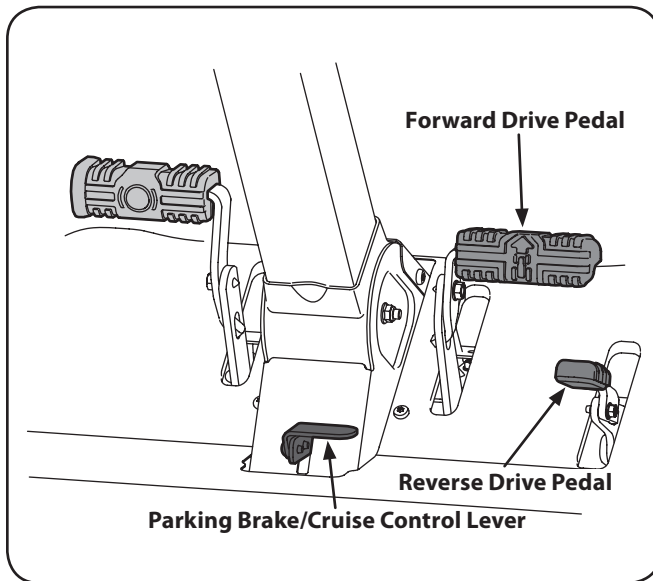

Figure 5-2
2. To travel FORWARD, slowly press the forward drive pedal forward until the desired speed is achieved. See Figure 5-2.
6. To travel in reverse, check that the area behind is clear then slowly push forward on the reverse drive pedal with the ball of your foot (NOT your heel) until the desired speed is achieved. See Figure 5-2.